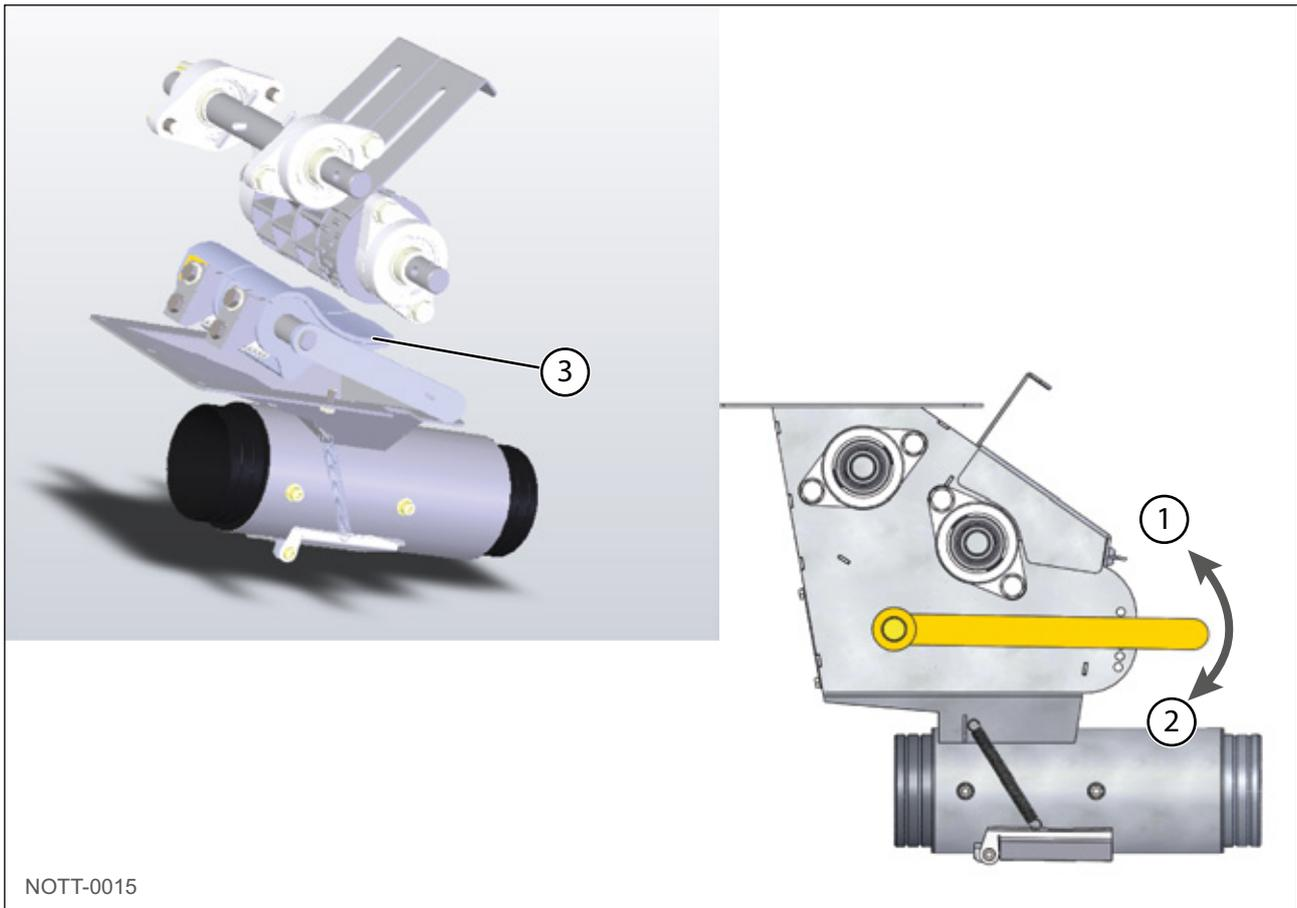

Fig. 32
The opening lever is shown in the hopper emptying position in the illustration in “Fig. 32”, page 49.
- Place the feed cup opening lever to position 2 (see "Fig. 32", page 49).